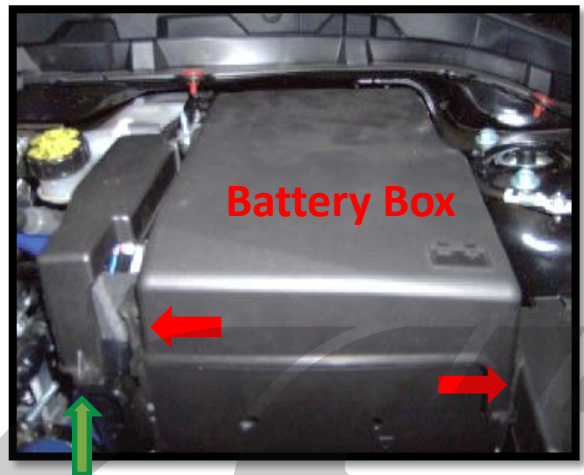

Figure 2a
- a) **Remove the battery box cover.** The cover is held on with two clips (shown with **red arrows** in **Figure 2a**). Pry the clips outward by hand and lift the front of the lid off of the box. The **green arrow** in **Figure 2a** shows the location of the ECU.